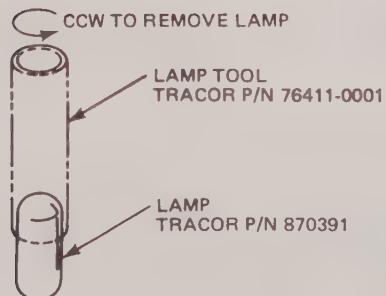

Figure 6 Replacement of Lamp
- 2) Control lamp replacement. Snap cap from pushbutton using pointed tool. Remove failed bulb using lamp tool supplied by pressing down and twisting counter clockwise until bulb lifts out. Install new bulb in similar manner, pressing down and twisting clockwise, as shown in figure 6.